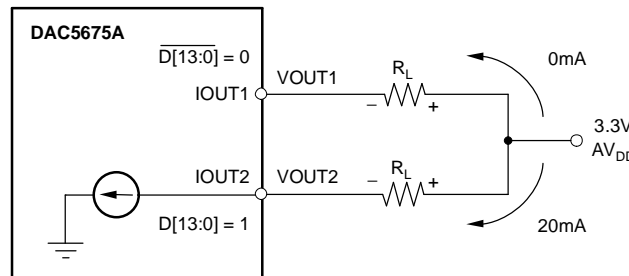
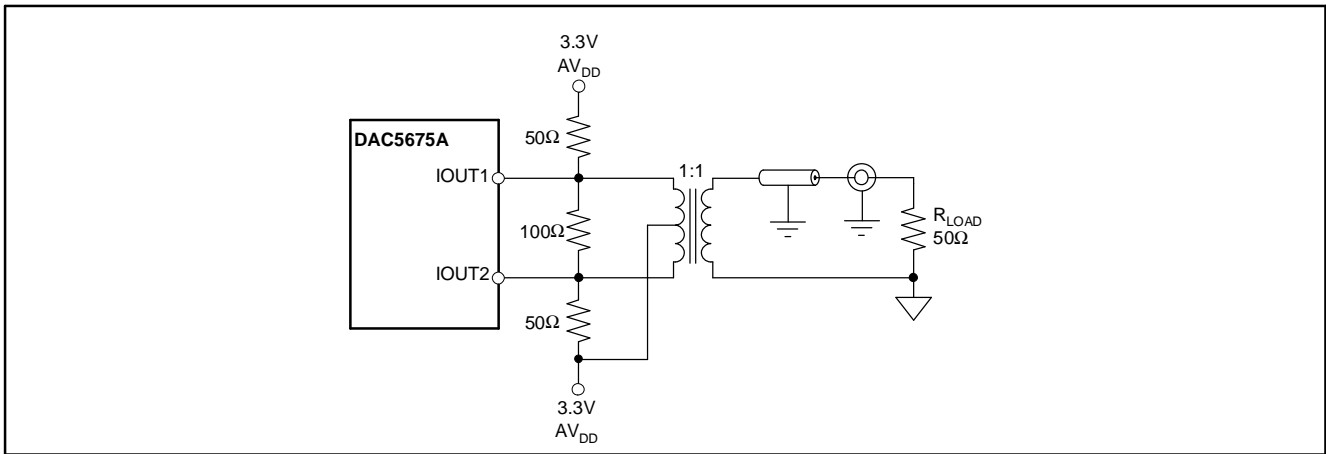

Figure 21. Relationship Between D[13:0], IOUT1 and IOUT2
**Figure 22. Equivalent Analog Current Output**
The output current flow in each pin driving a resistive load can be expressed as shown in Figure 21, as well as in Equation 2 and Equation 3.
Figure 22 shows a simplified schematic of the current sink array output with corresponding switches. Differential NPN switches direct the current of each individual NPN current sink to either the positive output node IOOUT1 or its complementary negative output node IOOUT2.  $D[13:0]$  controls the S(N)C current switches and  $\overline{D}[13:0]$  controls the S(N) current switches, as explained in the previous **DAC Transfer Function** section (see Figure 21). The output impedance is determined by the stack of the current sinks and differential switches, and is  $> 300k\Omega$  in parallel with an output capacitance of 5pF.